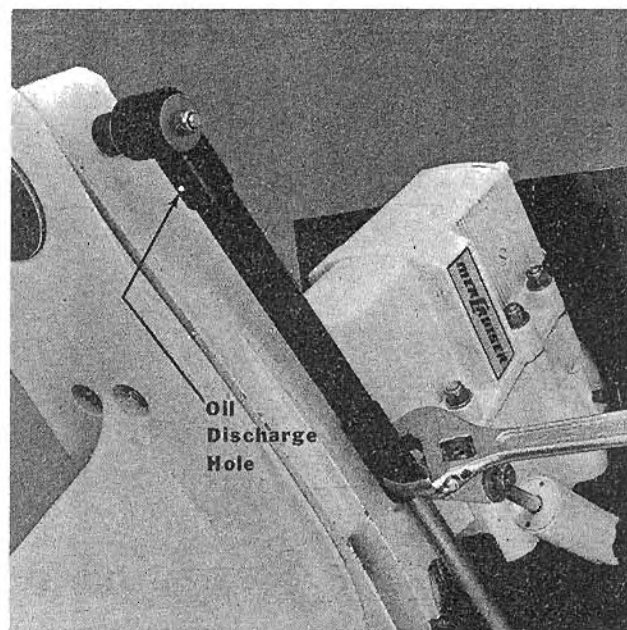

Figure 3. Bleeding Air from Hydraulic System - Early Style
6. For tilt cylinders with air bleed hole in lower aft portion of cylinder (Figure 3), proceed with one tilt cylinder at a time as follows: